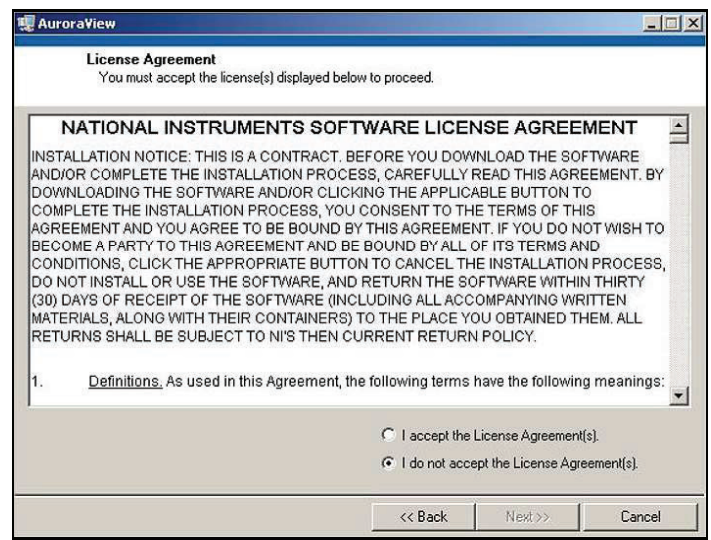

Figure 24: Software license agreement
6. At the next screen, accept the *Software License Agreement* (see *Figure 24* below) and click **Next**.